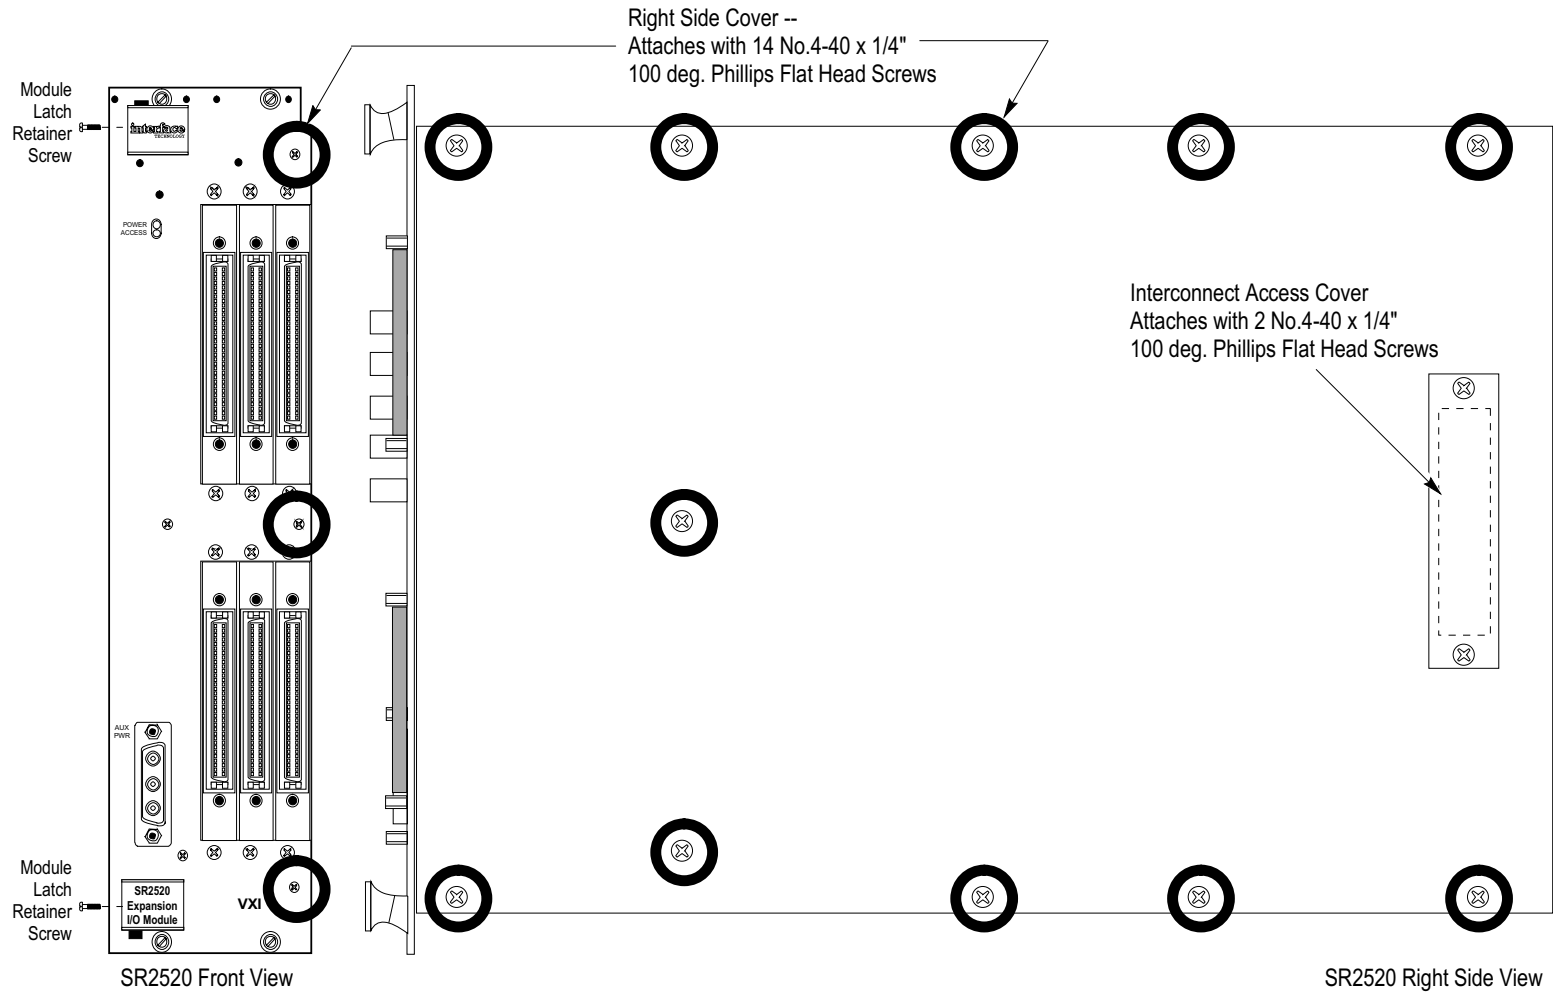
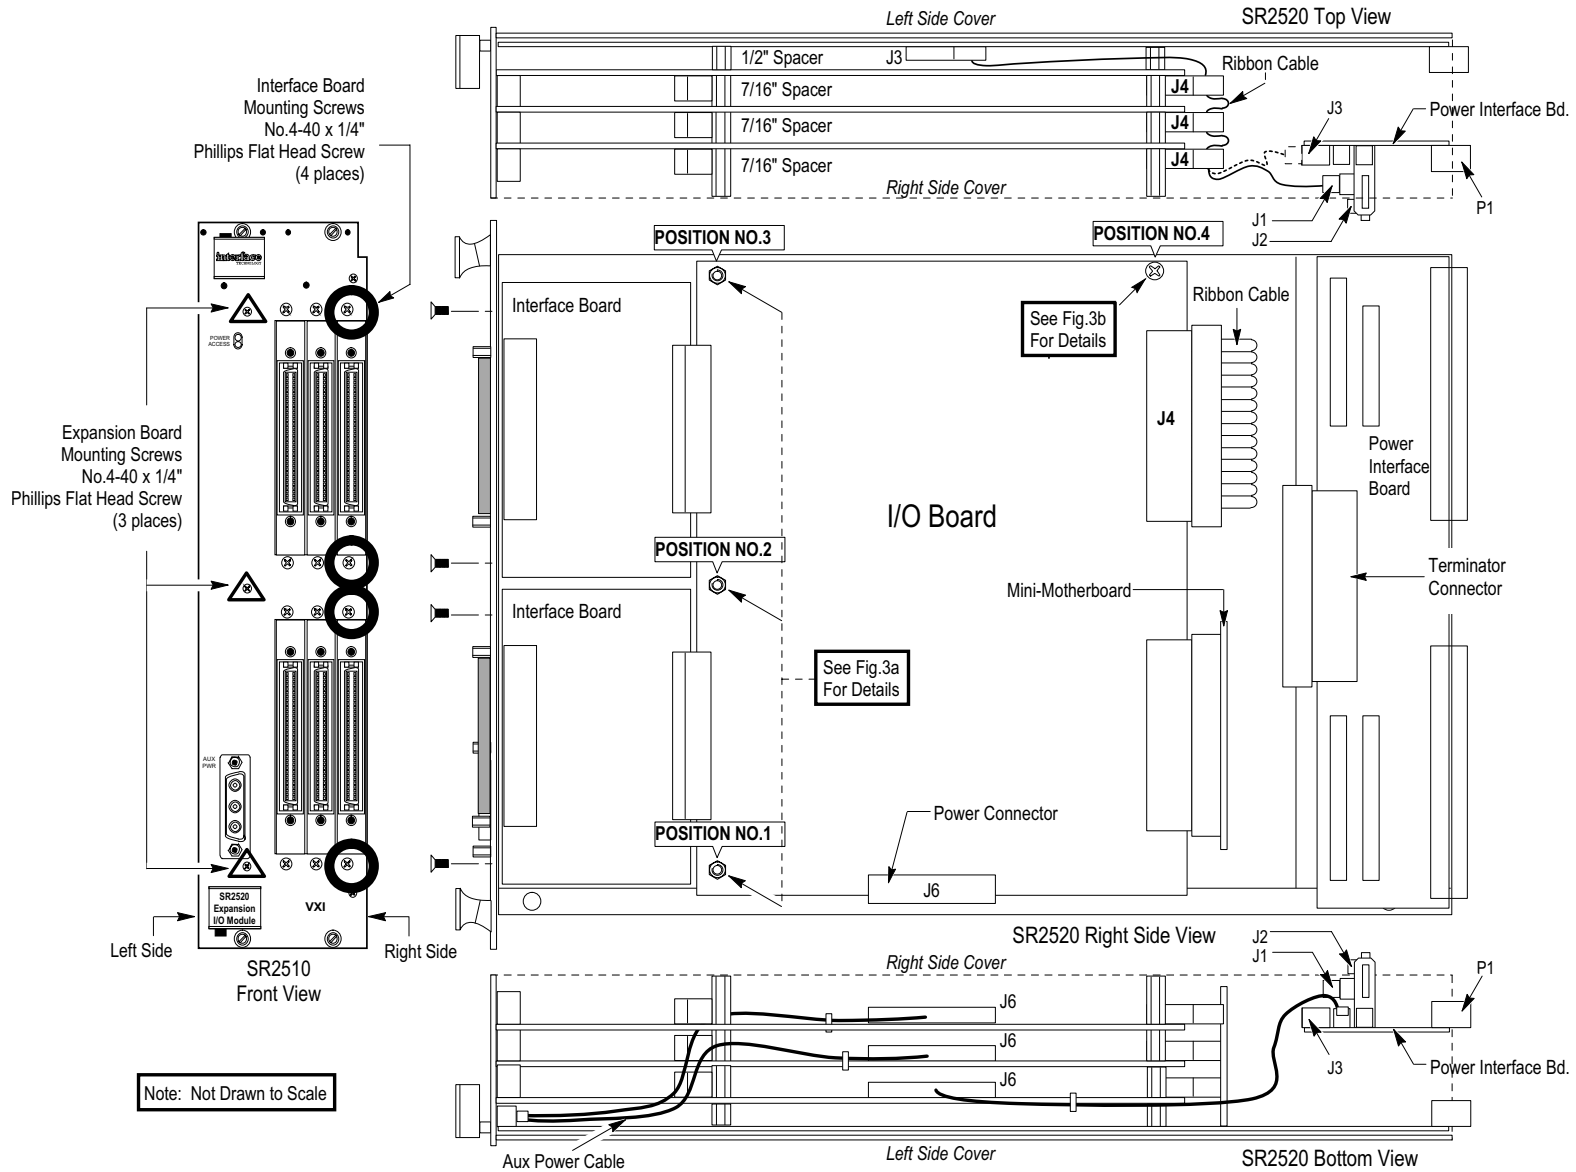

Figure 3-5. Cover Screws
Figure 3-6. I/O Board Mounting Hardware.
3. Place the module on a clean workbench, orient the module to gain access to the right side cover, see Fig 3-5.
4. Remove the 14 #4-40 x .14" Phillips flat head screws securing the cover to the module; 11 screws are located on the side of the module and three more screws are located on the front of the module. The screws to be removed are indicated by the heavy circles in Fig 3-5.
6. Remove the 2 cover plates from the front of the module for the I/O Board to be installed ... i.e., cover plates for I/O Board 2 or cover plates for I/O Board 3 are secured to the front panel by four No.4-40 x 1/4" Phillips flat head screws, see Fig 3-6 (note: in Fig 3-6, these screws are shown, blown away from the module, directly to the left of the two Interface Boards).
7. See Fig 3-6 and Fig. 3-7. Remove the three spacer stacks at positions 1, 2, and 3, each consisting of two 1/2" and one 7/16" hex spacers (see Fig. 3-7a1). Also remove the No.4-40 x 1/4" Phillips pan head screw, split lock washer and nylon washer at position 4 of the I/O Board (see Fig 3-6 and Fig 3-7b1).
8. See Fig 3-6. Loosen, but do not remove, the three No.4-40 x 1/4" Phillips flat head mounting screws securing the Interface Board to the module front panel. (note: screws indicated by black triangles in Fig 3-6). Also loosen, but do not remove, the two small slotted head retainer screws securing the module latches to the module, see Fig 3-5. The front panel should now swing out slightly, away from the module, to allow access to install the I/O Board.
9. See Fig 3-6. Carefully place the new Expansion I/O Board, with the Interface Board(s) attached, in position inside the module.
10. See Fig 3-6. Connect the ribbon cable to J2; connect the mini-motherboard connector, and attach the power connector at J6 of the newly installed I/O Board.
11. See Fig 3-6 and Fig 3-7a2. Install the three spacer stacks at positions 1, 2, and 3 each consisting of one 1/2" and one 7/16" hex spacers (see Fig 5-8a2). Also install a 7/16" hex spacer and the No.4-40 x 1/4" Phillips pan head screw, split lock washer and nylon washer at position 4 of the I/O Board (see Fig 3-6 and Fig 3-7b2).
12. See Fig 3-6. Install the four No.4-40 x 1/4" flat head Phillips screws securing the Interface Boards of the new I/O Board to the front panel
14. Reinstall the module cover. Reinstall and tighten the 14 mounting screws securing the cover to the module, see Fig 3-5.
Note when installing I/O Boards that the power supplied to connector J6 of I/O Board No.1 is taken from the Power Interface Board (see lower part of Fig 3-6), while power supplied to the same connector (J6) of I/O
Also note that the ribbon cable (upper part of Fig 3-6) has a separate connector for each of the I/O Boards. Unused connectors on the ribbon cable are left unterminated.